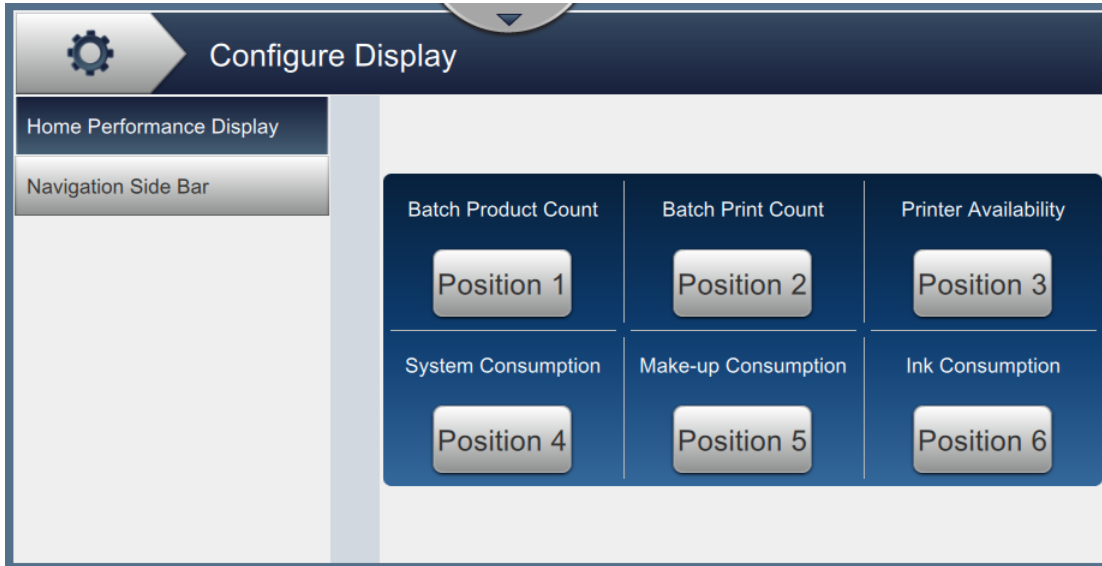

Figure 6-19: Home Performance Display
1. Touch the  button from the Tools screen. The Configure Display screen opens as shown in the Figure 6-19.